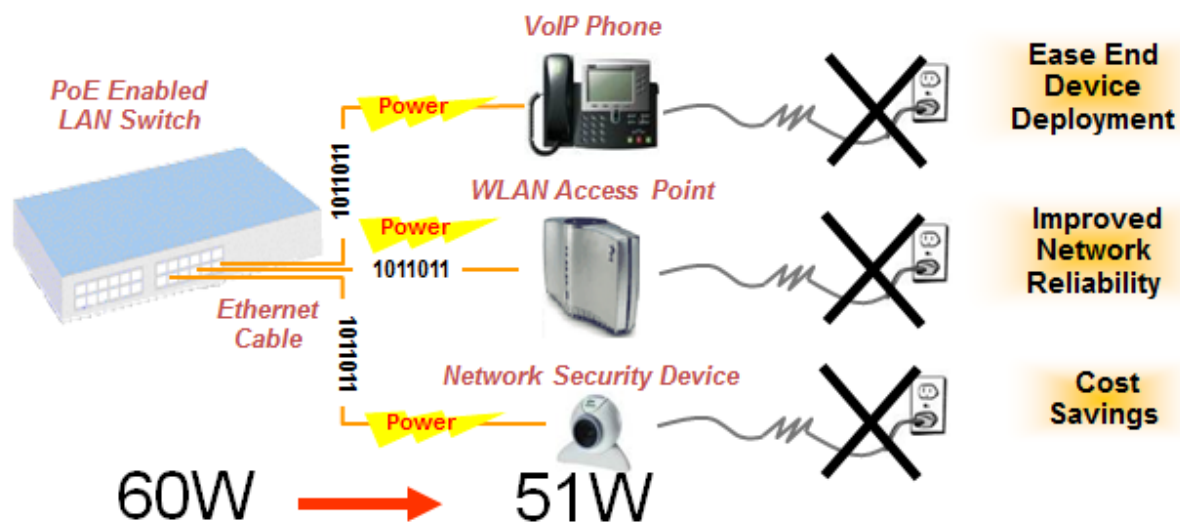

Fig. 1: PoE-enabled network power infrastructure
PoE enables data and power to be carried over a single Ethernet cable. The technology delivers up to 60 watts (W) of safe, uninterrupted power over the existing LAN infrastructure to powered devices (PDs), at voltages from 50 to 57 volt (V) levels, in support of the latest high-power IEEE802.3at-2009 standard (see Fig. 1). The IEEE802.3at-2009 standard is backwards compatible with and supersedes the earlier IEEE802.3af-2003 specifications.